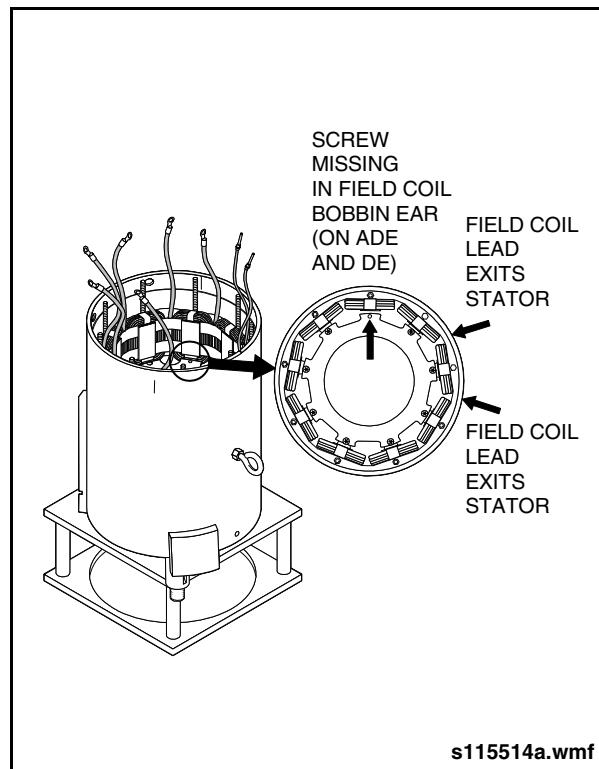

Fig. 9-22: Scribe Marks for Field Coil Location
- a. Scribe marks at the following locations prior to removing the field coil. This will ensure that the field coil and stators will be properly located during reassembly: See "Fig. 9-22: Scribe Marks for Field Coil Location" on page 28.